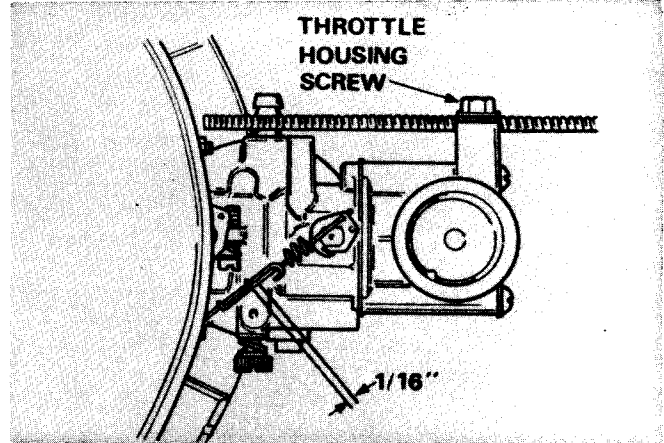

Figure 115. Choke Adjustment.
- b. Check the hook in the choke link to be certain it is in contact or no more than a maximum of 1/16” away from the first loop in the choke spring. (See Figure 115.)
- c. If the choke is partially on the loop or if there is more than 1/16 inch clearance between the hook and loop, loosen the screw holding the throttle wire housing. (See Figure 115.)